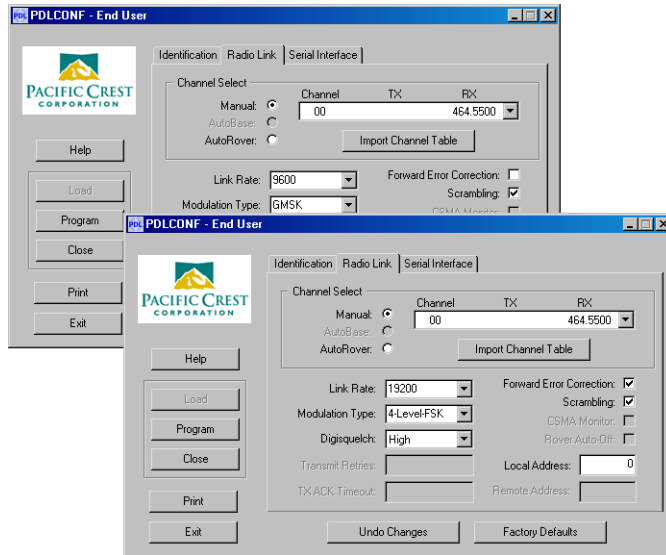

Figure 2-31. PDL Radio Link Tab
13. Click the Radio Link tab and set the following parameters depending on the link rate selected (Table 2-3 and Figure 2-31):